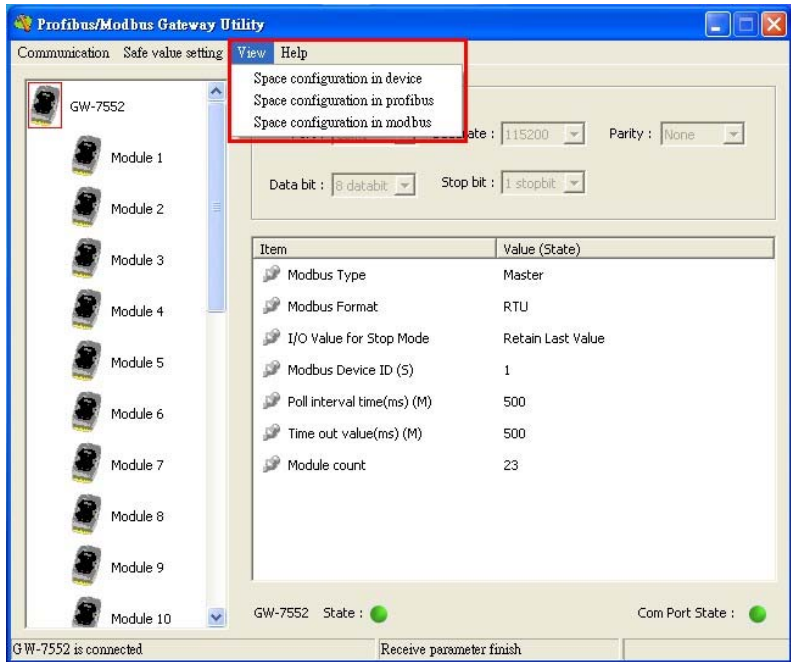

Figure 56 The menu of space configuration
There are 3 kinds of memory address configuration. They are (1)Space configuration in device 、 (2) Space configuration in profibus 、 (3)Space configuration in modbus, as shown in *figure 56*.